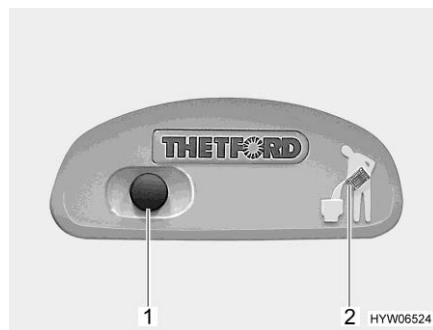
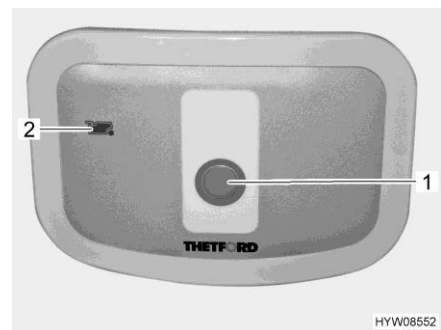

Fig. 208 Flush button/indicator lamp Thetford toilet
Fig. 209 Flush button/indicator lamp Thetford toilet (alternative)
- For flushing, press the blue flush button (Fig. 208,1 or Fig. 209,1).
The indicator lamp (Fig. 208,2 or Fig. 209,2) lights up whenever the sewage tank has to be emptied.